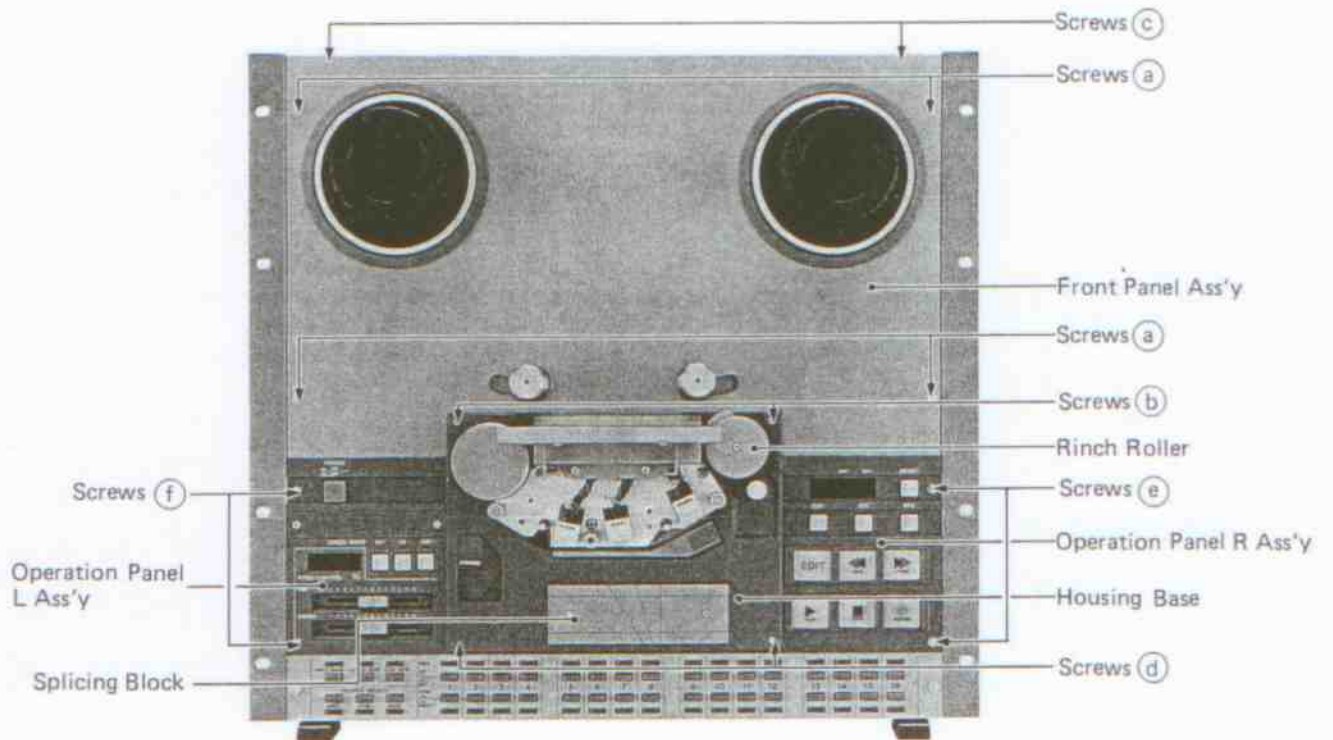

Fig. 7-4. Front Panels
1. Using a 3 mm Allen wrench, remove the four Allen screws (a) from both the left and right sides of the front panel, the two screws (b) located on the housing base and the four screws (c) on the top of the deck, as shown in Fig. 7-4.